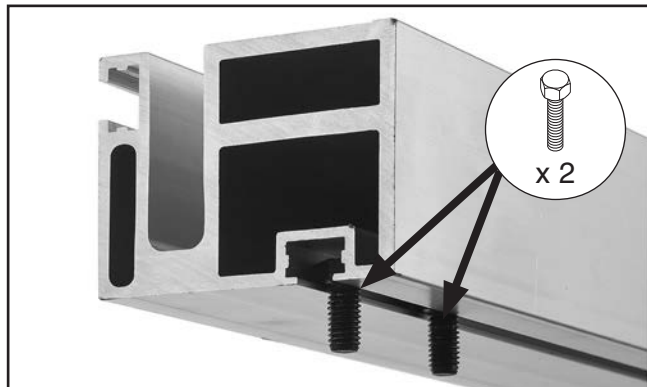

Figure 19. Hex bolts for mounting switch.
5. Remove (2) M8-1.25 x 16 hex bolts from switch and insert into bottom slot on left end of fence rail (see **Figure 19**). These will be used later for mounting the switch.